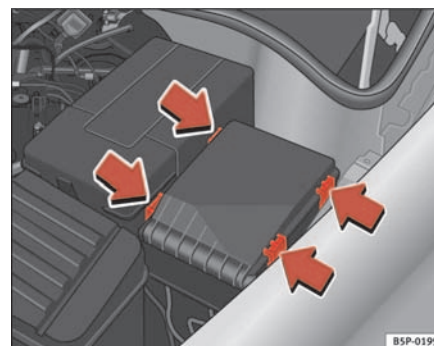

Fig. 172 Fuse box cover in engine compartment
- Prise off the fuse cover in the engine compartment by pressing the tabs towards the centre of the cover ⇒ page 235, fig. 172.